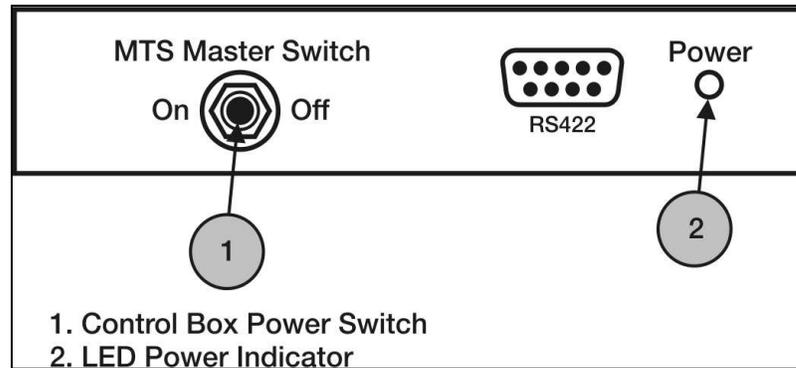

Figure 3-89. Control Station Control Box
3. Perform control station power-on procedures (see Figure 3-89).